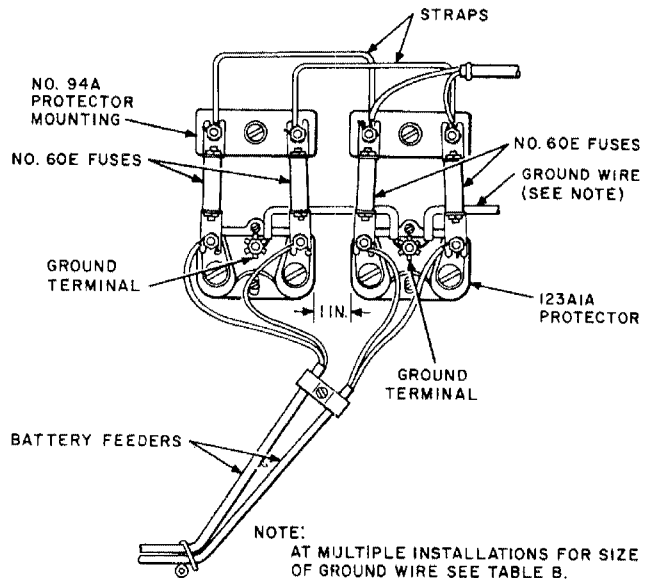

Fig. 20—Fuseless Protectors and 60-Type Fuses—Multiple Pairs
7.04 Fig. 20 illustrates a method of terminating two drop wires at a fuseless protector where 60-type fuses are required. Strap the pairs on the PBX side of the protector.